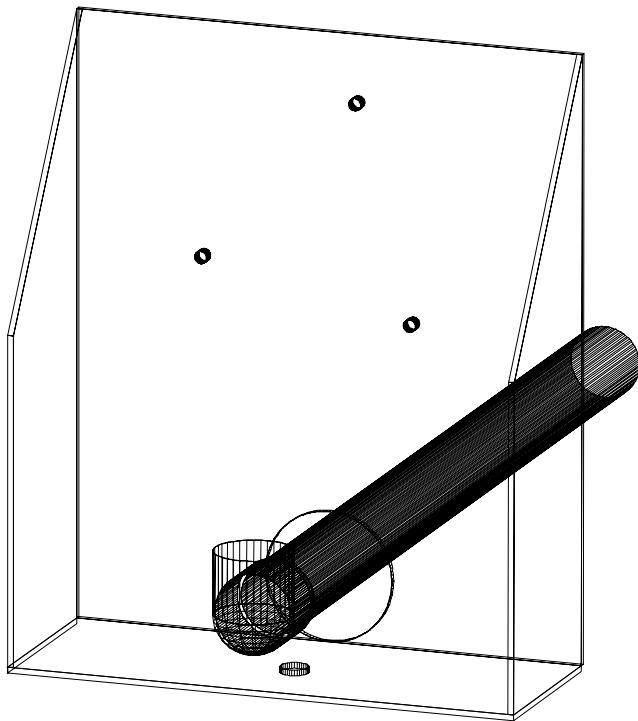

Figure 12 Horn Mounting Bracket
5. Push the end of the conduit with the right angle male conduit connector through the 2" diameter hole in mounting bracket as seen in figure 12.